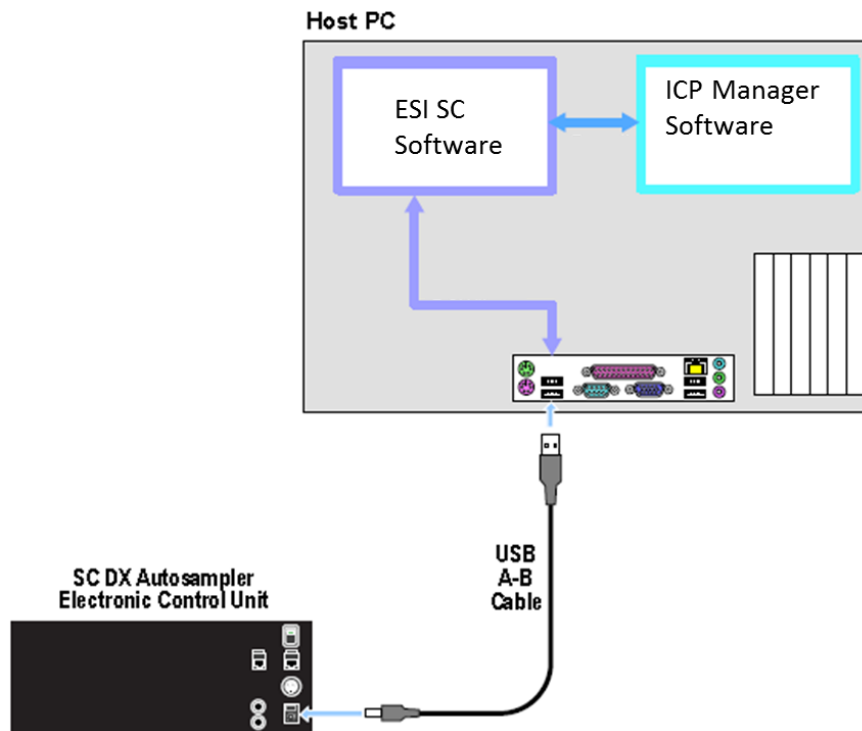

Figure 16: Connection options for ICP Manager and ESI SC with SC autosampler.
- 3) One USB port will be used along with a virtual port created in the ESI SC software. See Figure 16: Connection options for ICP Manager and ESI SC with SC autosampler.